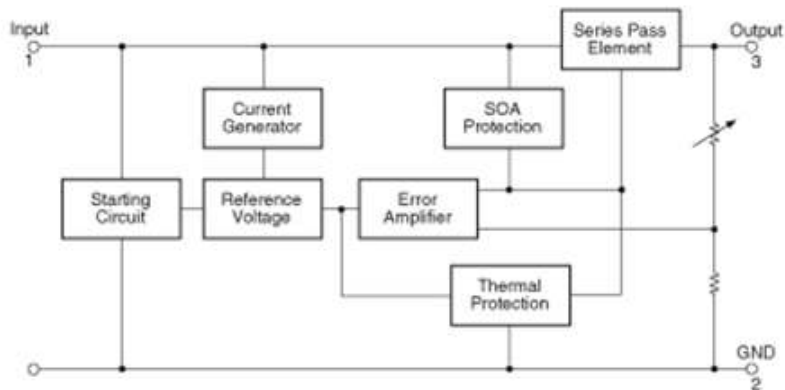

Figure 1.
- Use Figure 1 to calculate the voltage gain  $A_V$  for the load resistance  $R_L = 10 \text{ k}\Omega$ .